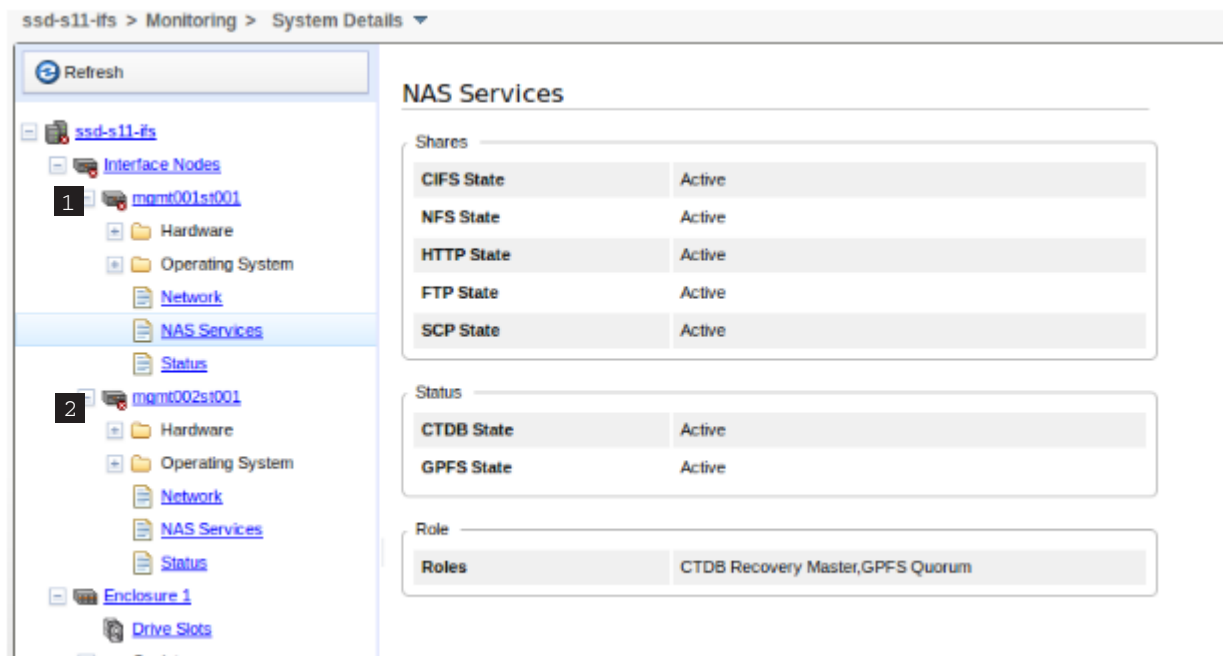

Figure 46. Management GUI showing CTDB status for both file modules
- Review the status of both file modules, **1** mgmt001st001 and **2** mgmt002st001, as shown in Figure 46.